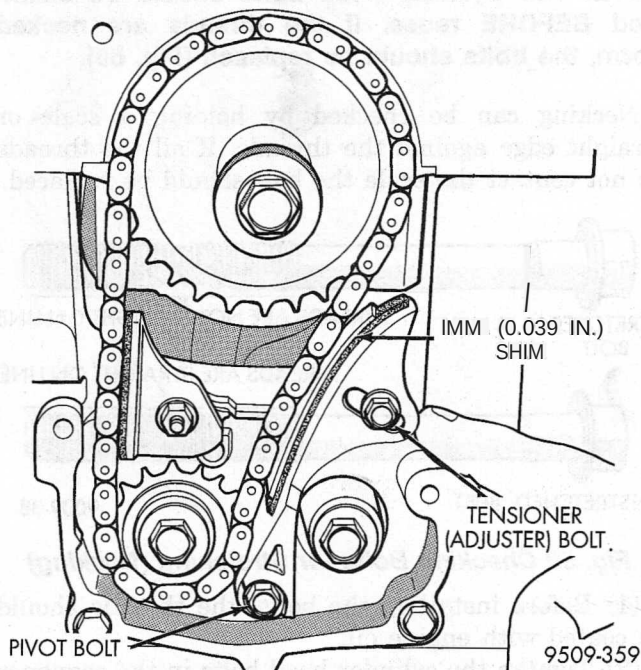

Fig. 47 Chain Tension Adjustment
- (1) Install chain tensioner loosely assembled.
- (2) Position guide on double ended stud making sure tab on the guide fits into slot on the gear cover. Install and tighten nut/washer assembly to 12 N·m (105 in. lbs.).
- (3) Place a shim 1 mm (0.039 in.) thick x 70 mm (2.75 in.) long or between tensioner and chain. Push tensioner and shim up against the chain. **Apply firm pressure (5.5 to 6.6 lbs.) directly behind the adjustment slot to take up all slack.** Chain must have shoe radius contact as shown in (Fig. 47).
- (4) With the load applied, tighten top tensioner bolt first, then bottom pivot bolt. Tighten bolts to 12 N·m (105 in. lbs.). Remove shim.
- (5) Install carrier covers and tighten screws to 12 N·m (105 in. lbs.).
- (6) Install oil pan and fill engine crankcase with proper oil to correct level.